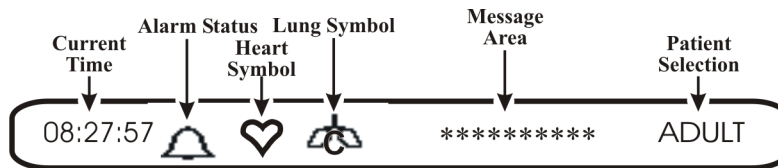

Figure 1-6. The Informational Display
1.3.1 Informational Display. (See Figure 1-6) The Informational Display is located at the top of the Normal Display. This display provides the operator with the current time, the Alarm Status Bell Symbol, a flashing Heart Rate Symbol, a flashing Lung Symbol, any current user messages and the current Patient Selection.